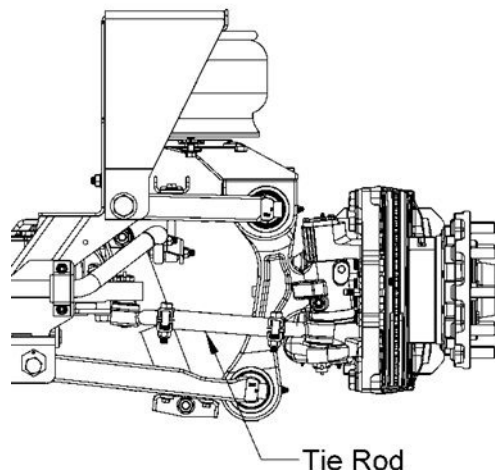

Figure 6 – Tie Rod
1. With the engine on, lightly rock the steering wheel and have an assistant observe any looseness in the two mating tapers or any movement of the stud nut at both ends of the tie rod. **(Figure 6)**. If looseness is found in either place go to step 2, otherwise skip to step 3.
steered straight ahead grab the tie rod near its end and try to move the socket in a direction parallel to the ball stud axis **(Figure 6)**. Be sure to only apply hand pressure to the tie rod.
6. Check the tie rod clamp orientation **(Figure 6)**.